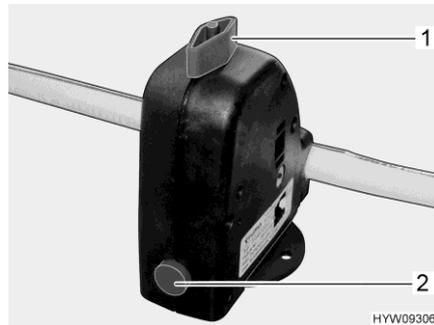

Fig. 154 Safety/drainage valve (boiler)
The boiler is equipped with a safety/drainage valve (Fig. 154). The safety/drainage valve prevents water in the boiler from freezing, when there is frost and the heater is not switched on.
- Close the safety/drainage valve. Turn the knob (Fig. 154,1) perpendicular to the safety/drainage valve and push the push button (Fig. 154,2) in.
- Open the safety/drainage valve. To do this turn the knob (Fig. 154,1) parallel to the safety/drainage valve. The push button (Fig. 154,2) jumps out. The boiler is drained to the outside by the safety/drainage valve.